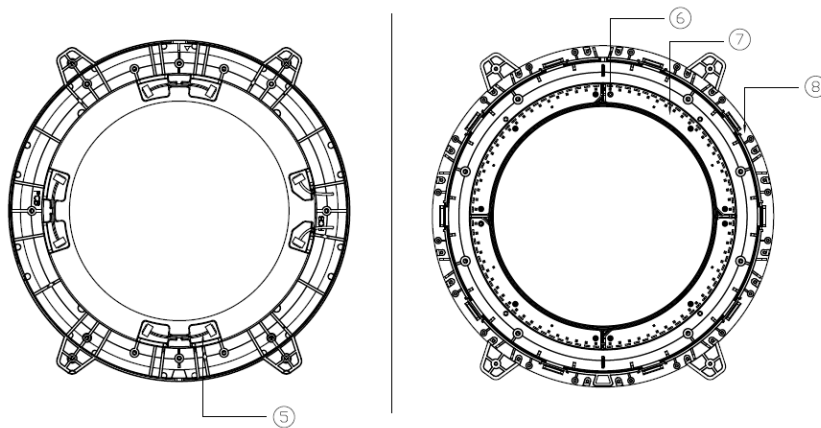

Figure 10-2
As shown in Figure 10-2, remove the 5 DuPont cable (5) on the back of the Main Body Support-Up, remove the 12 screws (6) on the front side, remove all illumination boards (7) (RVM100-ILL-WHITE) and the Main Body Support-Up (8) (RVM100-MBS-UP). The specification of the screw is the self-tapping screw, ST2*6mm.